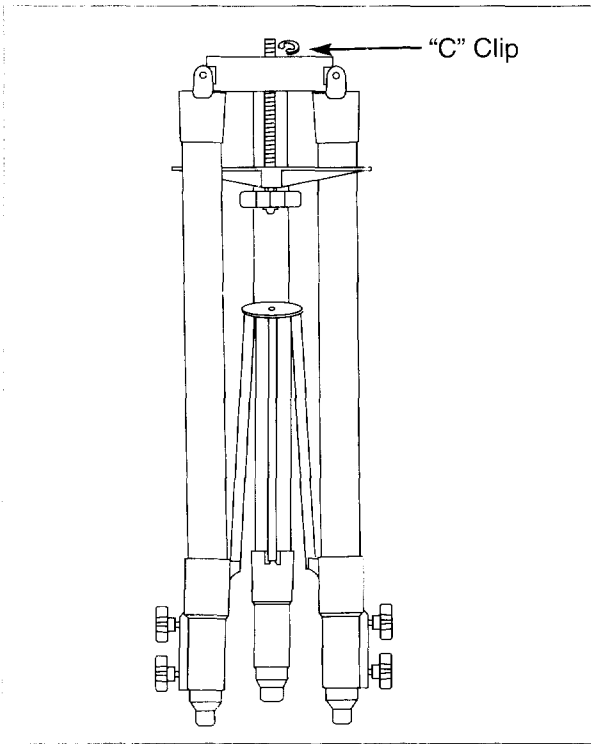
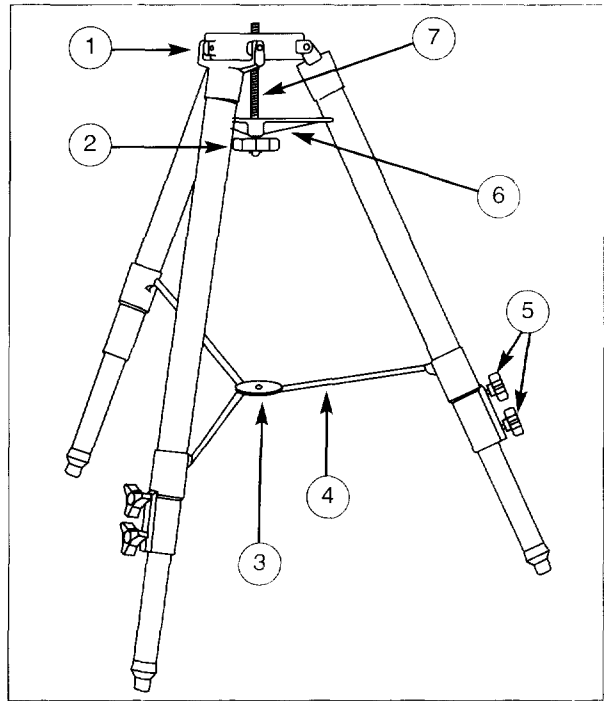

Fig. 4: Field Tripod (collapsed).
Fig. 5: Field Tripod. (1) Tripod Head; (2) Tension Knob; (3) Tension Hub; (4) Tension vane; (5) Lock Knobs; (6) Spreader Bar; (7) Threaded Rod.
The Field Tripod (Figs. 4 and 5) is virtually completely assembled at the Meade factory; getting the tripod ready for the telescope requires only a few minutes. The required hardware can be found at one end of the tripod shipping box, separated from the tripod by a sheet of cardboard to guard against damage during shipment. Parts included with the LX50 Field Tripod
With the tripod feet down and completely collapsed (Fig. 4), grasp two of the tripod legs and, with the full weight of the tripod on the third leg, *gently* pull the legs apart until they are completely extended.
Thread the 6 lock knobs (2 on each tripod leg) (5, Fig. 5) into the provided holes near the foot of each tripod leg. These lock knobs are used to fix the height of the inner, extendible tripod leg section.
Remove the threaded rod (7, Fig. 5) from the tripod head (1, Fig. 5) by removing the small piece of plastic holding the threaded rod in place. Also remove the plastic bag that is stapled to the threaded rod. This bag contains two "C" clip retainers (see Fig. 4).
Slide the Spreader Bar (6, Fig. 5) onto the threaded rod (note the correct orientation as shown in Fig. 5) and position the threaded rod back through the hole in the center of the tripod head. Place a "C" clip retainer into the slot in the threaded rod. This clip holds the threaded rod in place.
Align the 3 arms of the Spreader Bar with the 3 tripod legs and tighten the Tension Knob (2, Fig. 5) until the Spreader Bar is firmly bracing the tripod legs.
Loosen the Tension Knob (2, Fig. 5) until you can rotate the Spreader Bar (6, Fig. 5).
Grasp the tripod head (1, Fig. 5) with one hand. With the other hand, pull directly up on the tension hub (3, Fig. 5) of the tension vanes (4, Fig. 5). This action will cause the tripod legs to move inward to a collapsed position.
3. Be sure the Spreader Bar (6, Fig. 5) is not upside-down on the threaded rod.
Place the equatorial wedge on the tripod, slipping the central hole of the wedge body onto the threaded rod sticking up from the tripod head (1, Fig. 5). Thread the 3" manual knob onto the threaded rod and tighten firmly. The equatorial wedge should now be rigidly attached to the LX50 Field Tripod.